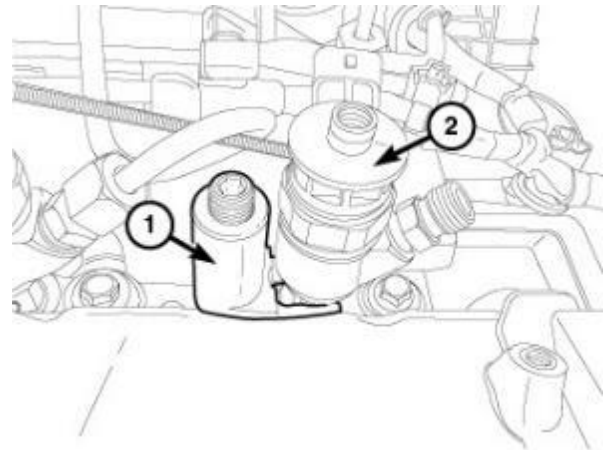

Figure 46 – Fuel Injector Removal Tool
44. If the fuel injector can't be removed by hand, install the Remover, Fuel Injector VM.10358A (1) to remove the fuel injector (2) (Figure 46).